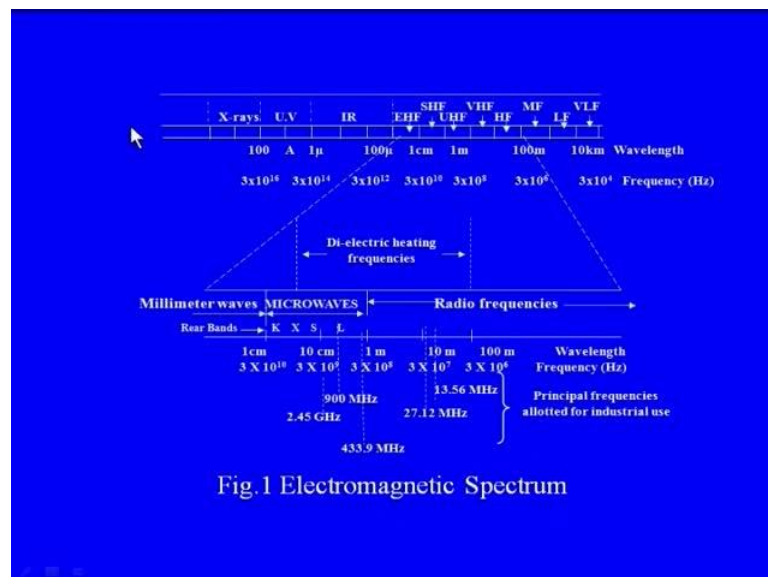

Fig.1 Electromagnetic Spectrum
- Whereas transmission is the result of partial reflection and incomplete absorption as shown in Fig.1.